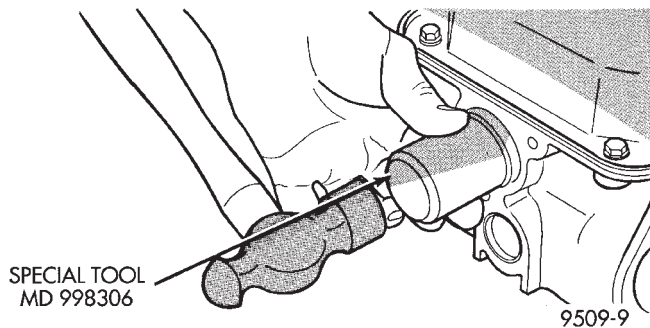

Fig. 90 Installing Camshaft Seal
- (1) Install camshaft seal flush with cylinder head using Special Tool MD 998306 (Fig. 90).
- (2) Install rear timing belt cover.